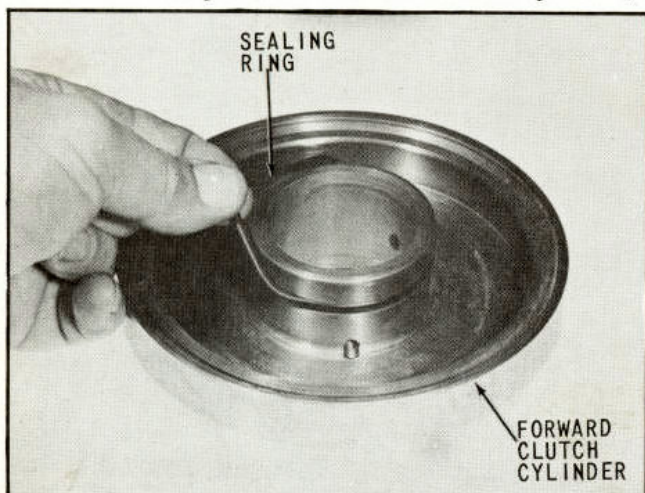

Fig. 35 Installing Sealing Ring
26. Install in forward clutch cylinder a well lubricated sealing ring, (Fig. 35). Lubricate entire forward clutch cylinder before continuing assembly.